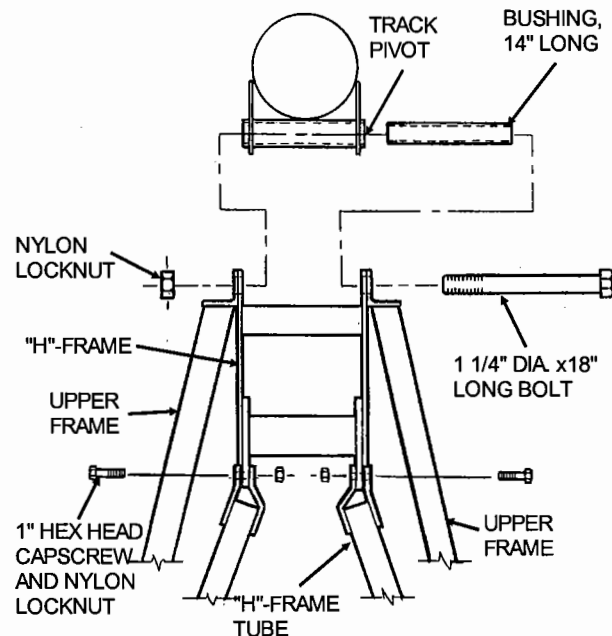

FIG. 43
- Step 1. Slip the 14" long bushing into the track pivot. Fasten the "H"-frame and upper frame to the pivot using a 1 1/4" dia. x 18" long HHCS through the bushing secured with a 1 1/4" nylon locknut. See Fig. 43.